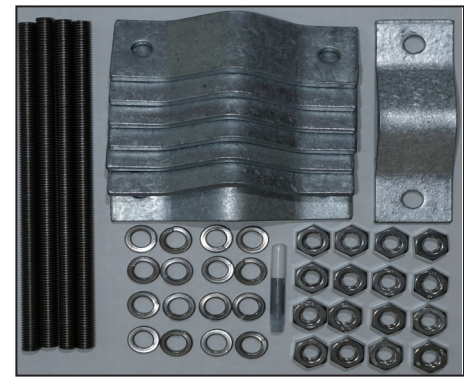

Figure 1: ANTC482 Clamp Kit
**Clamp Kit Contents (Figure 1):**
(8) Galvanized Clamp Plates